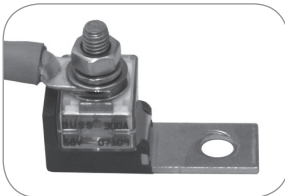

Fig. 7. Fuse MRBF and Positive cable fixed to the CFBAR
C. Insert the flat washer, the spring washer and the M-8 nut on to the CFBAR stud and tighten the nut with a 1/2" wrench. See Fig. 7.